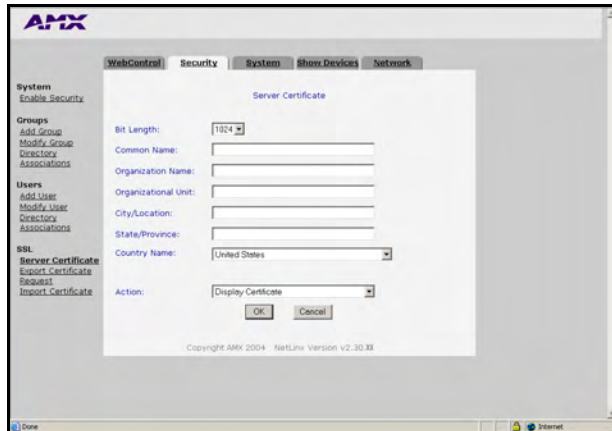

FIG. 55 Security tab - showing the Server Certificate creation fields
1. Click on the **Security** tab (FIG. 55). Refer to the *Security tab - SSL Server Certificate* page section on page 67 for more detailed descriptions on the security configuration options.
1. Click on the **Security** tab (FIG. 55 on page 82). Refer to the *Security tab - SSL Server Certificate page* section on page 67 for more detailed descriptions on the security configuration options.